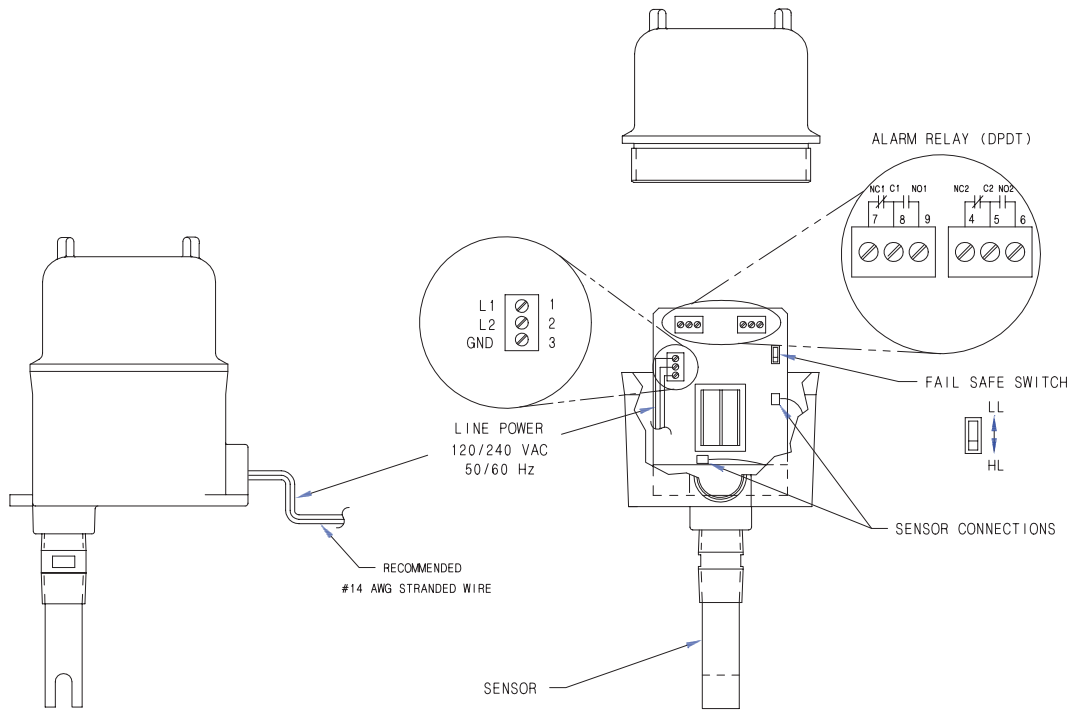
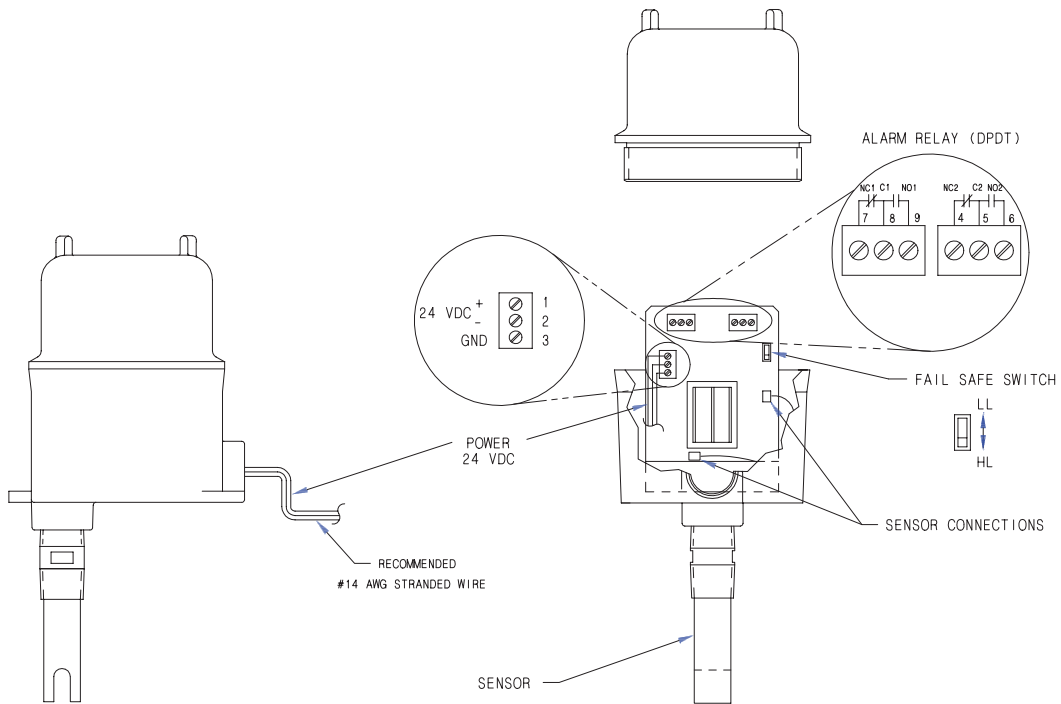

Figure 2-7
Figure 2-9
3. Make all electrical connections to the Switch per the wiring diagram shown in Figure 2-7 through Figure 2-9. Use 14-gauge or smaller wiring. All connections are made on the terminal strip.